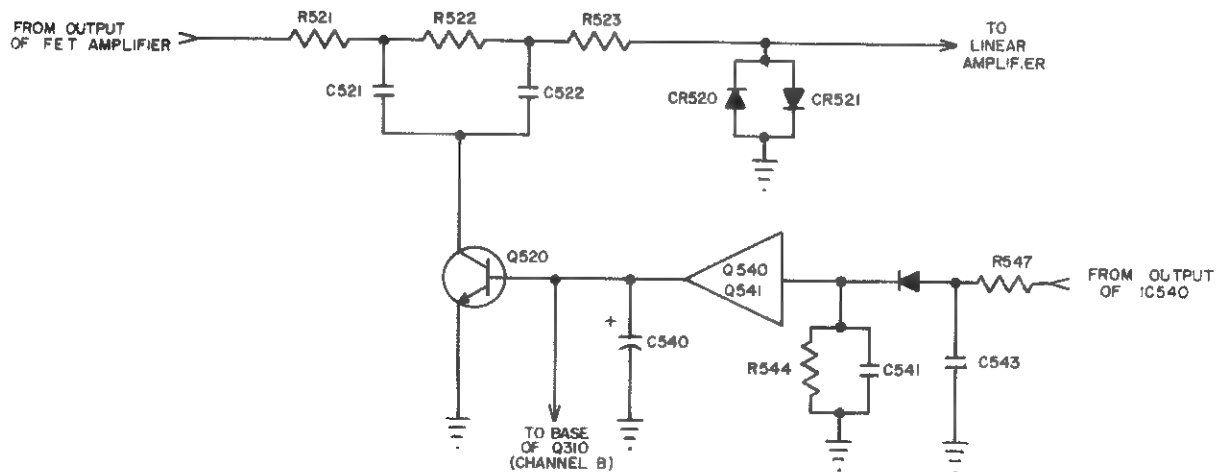

Figure 9. Switched Filter and Hot Carrier Limiter
4.4 SWITCHED FILTER AND HOT CARRIER LIMITER (see figure 9)